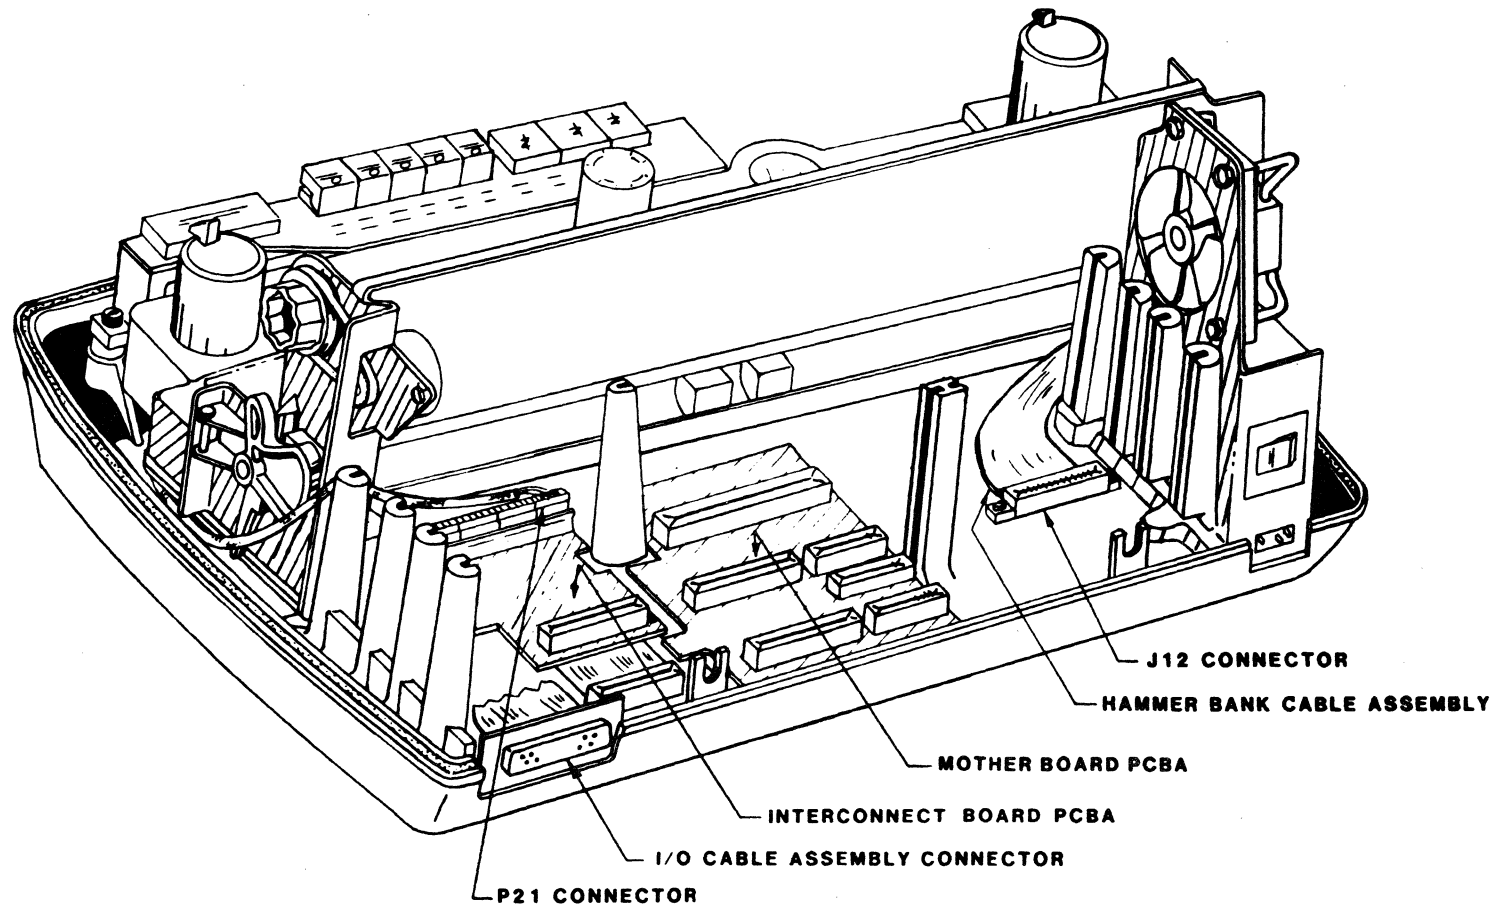

Figure 3-6. Rear View of Printer, Major PCBAs Removed
To remove the Interconnect Board PCBA, refer to **Figure 3-6** and perform the following steps:
To remove the Mother Board PCBA, refer to **Figure 3-6** and perform the following steps:
3. Remove the two hex head screws securing the Hammer Bank Cable Assembly connector J12 to the cabinet base (**Figure 3-6**).